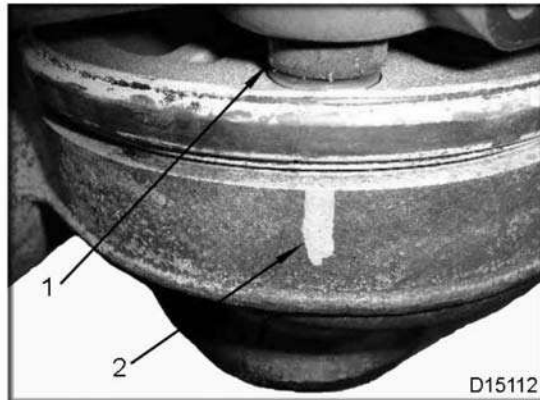

Figure 3 Unison ring cam
7. Using a paint pen, mark the location of the unison ring cam (Figure 3).